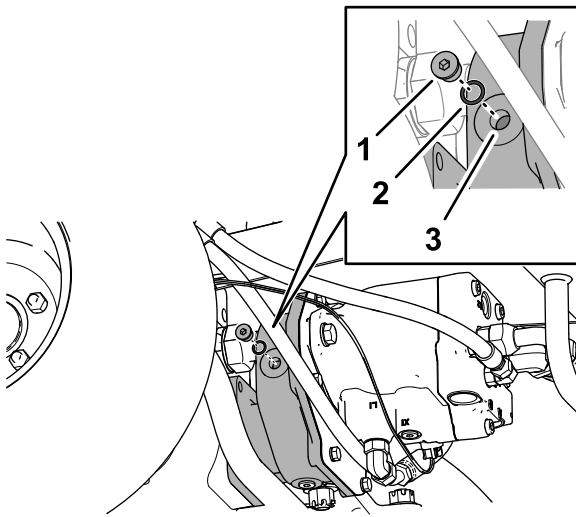

Figure 146
2. Remove the check/fill plug from the left side of the reduction-gear case (Figure 146).